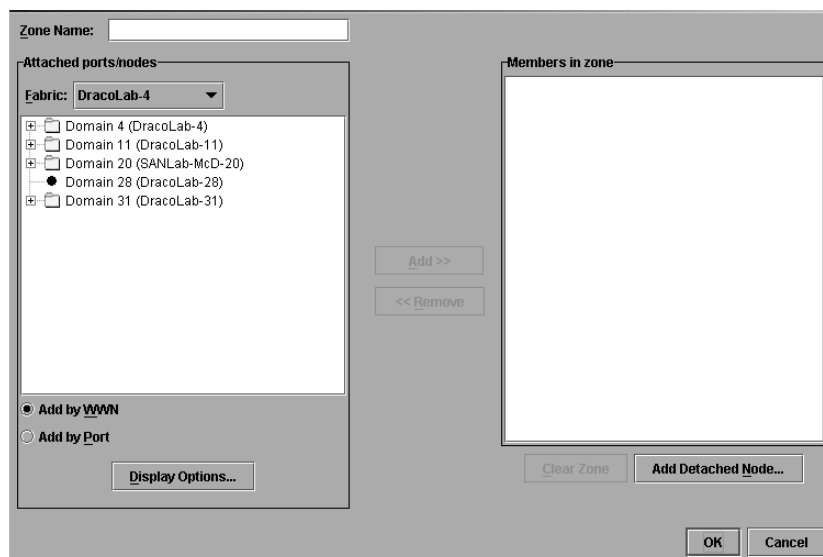

Figure 61: New Zone dialog box
3. Choose **File > New**. The **New Zone** dialog box displays (Figure 61 on page 149).
6. In the **Attached ports/nodes** area, click the icon to the left of a numbered domain folder to display a list of ports and attached nodes for the director or switch (Figure 61). Note that the WWN for the switch or director displays to the right of the product’s domain number.